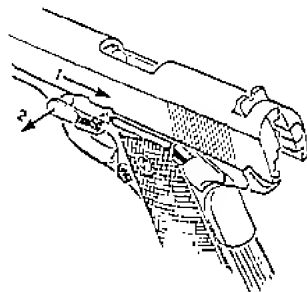

FIGURE 7— REMOVING SLIDE STOP
5. Pull slide to rear until lug on slide stop is opposite disassembly notch (See Figure 7) and push rounded end of pin of slide stop (on right side of receiver) inward and through receiver to disengage slide stop from slide.
6. Lift out slidestop. (See Figure 7).